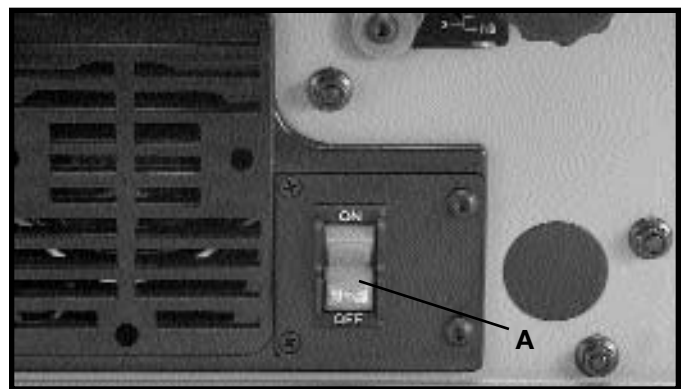

Fig. 21
The on/off switch (A) Fig. 21, is located on the front of the jointer cabinet. To turn the machine “ON,” move the switch (A) to the up position. To turn the machine “OFF,” move the switch (A) to the down position.